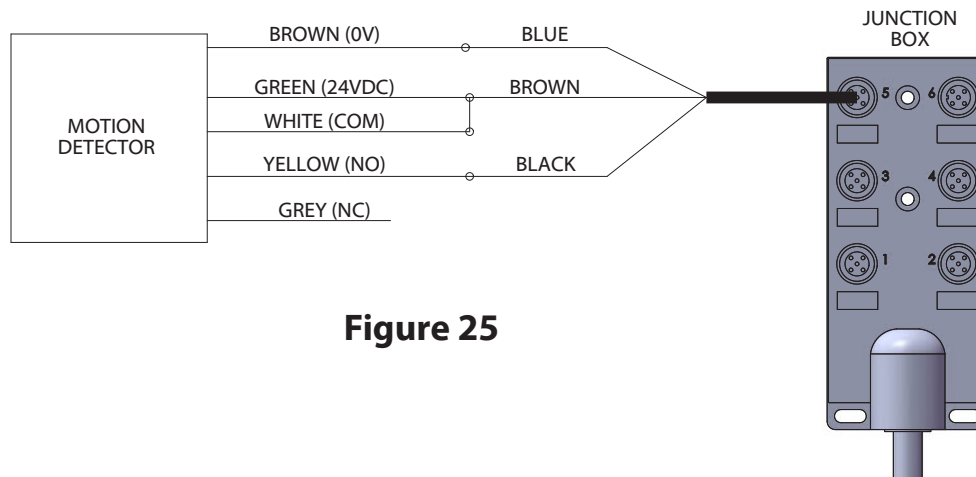
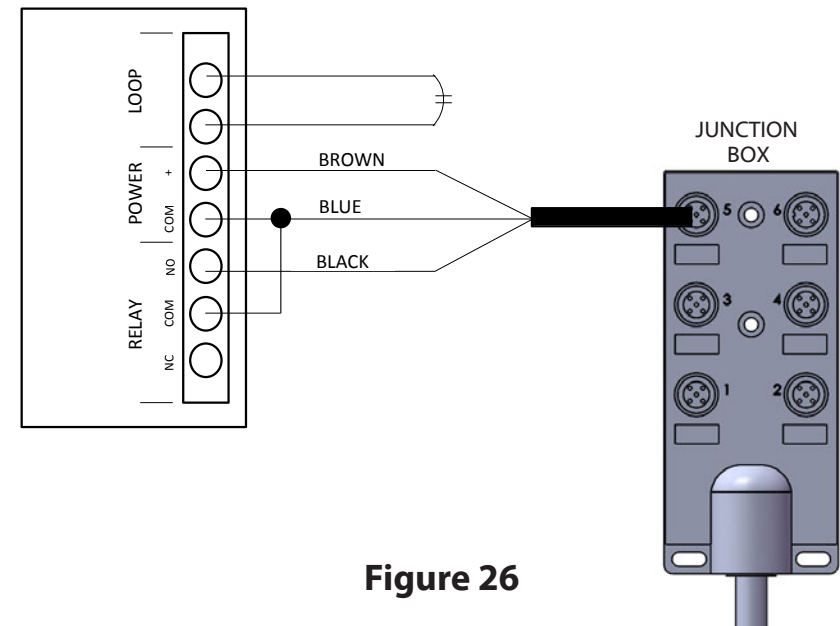

Figure 25
Figure 26
- Wire the supplied cables from the junction box to the optional equipment, as shown in Figure 25, and Figure 26.